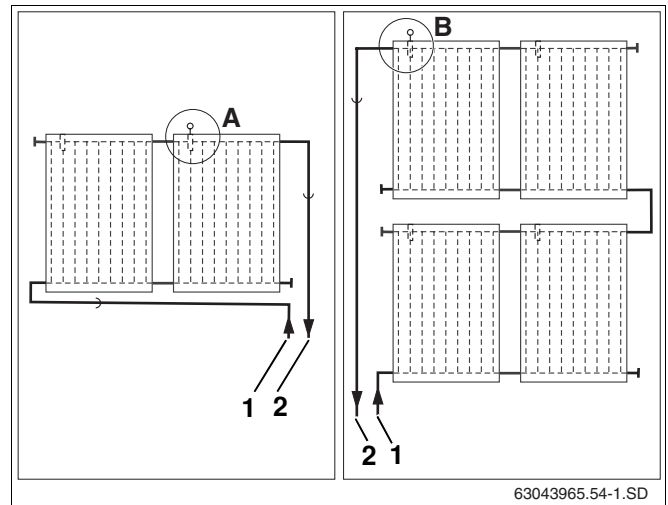

Fig. 50 Collector sensor installation location (schematic)
Observe the installation location for single or dual row collector systems (Fig. 50).
The collector sensor must be fitted in the collector nearest to the flow connection (Fig. 50, **Item 2**).
- Insertion point (Fig. 50, **Item A**) for single row collector systems with right-hand flow line.
- Insertion point (Fig. 50, **Item B**) for double row collector systems with left-hand flow line.